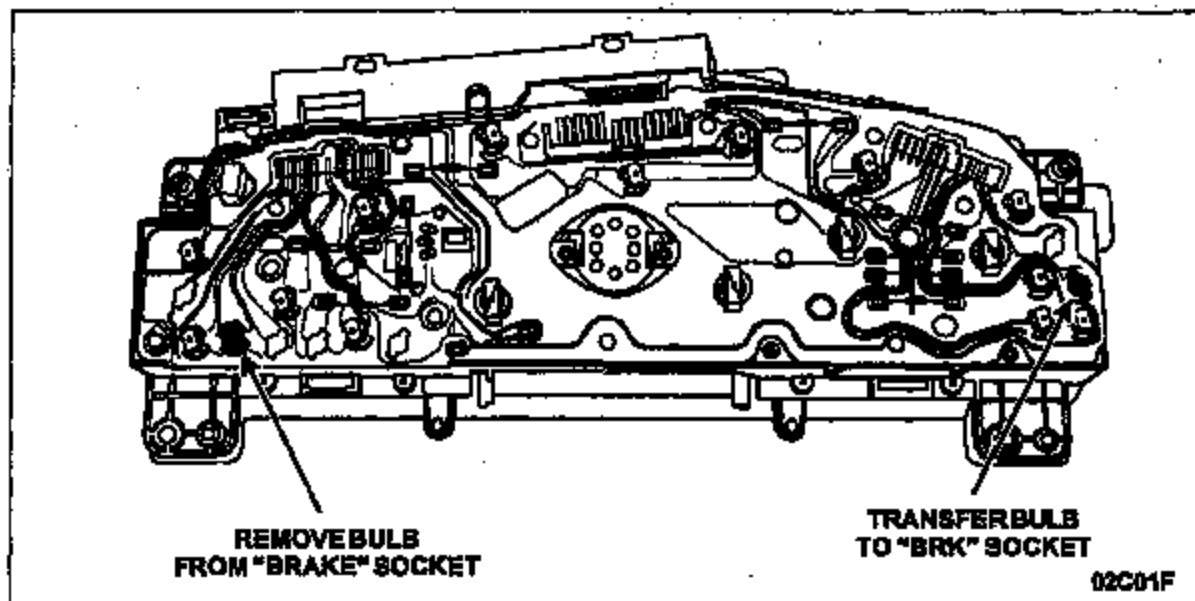

FIGURE 6
8. Remove the bulb from the "BRAKE" socket and transfer it to the vacant "BRK" socket located on the opposite side of the cluster. See Figure 6.